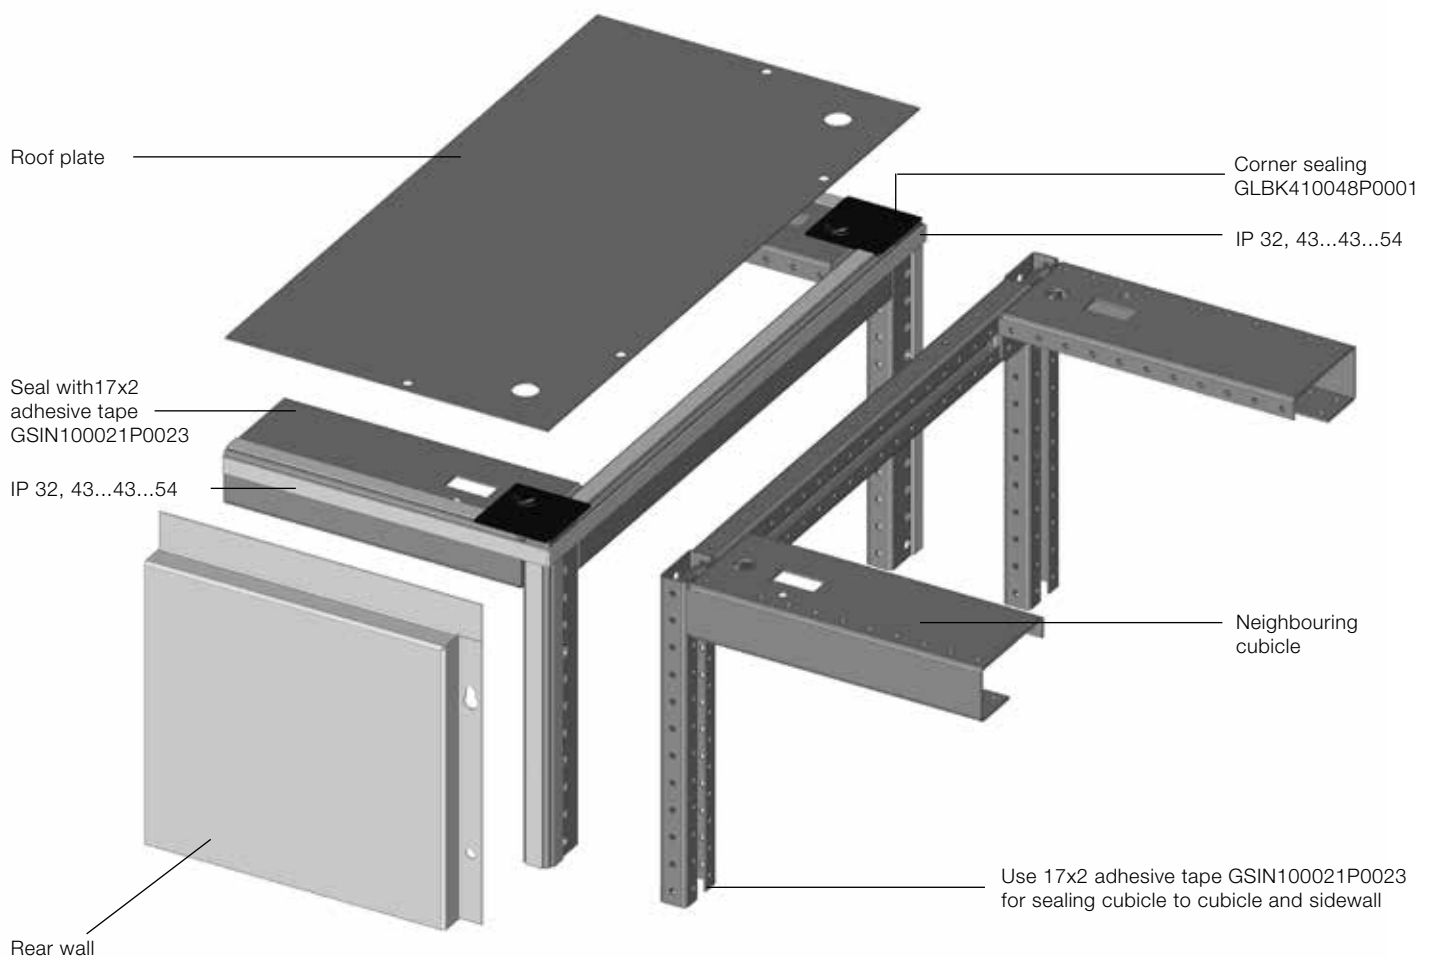

Fig. 23 Seals between adjacent compartments and roof
- After the cleaner has dried, 15 x 2 mm self-adhesive sealing tape (GSIN100021P0010) must be applied to the C-sections, 3 mm away from outer edge (see fig. 23).